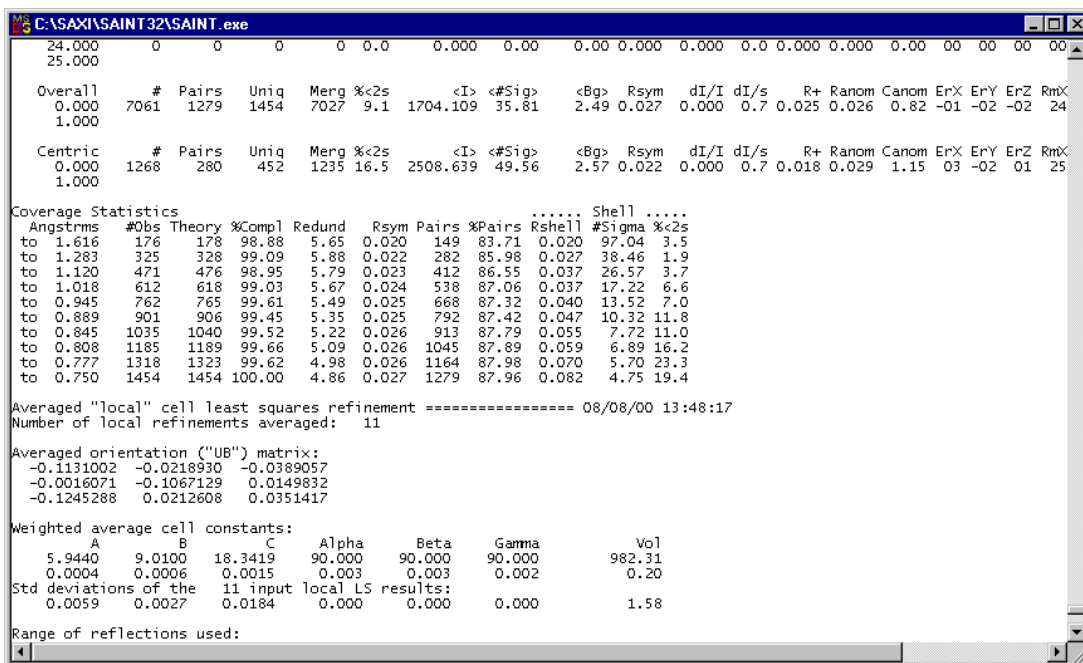

Figure 5-10. Viewing log files
- Before pressing the Enter key, scroll up the screen to display the summary table from the integration process (Figure 5-10).